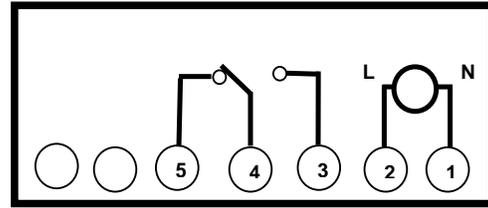

Fig 5
- Connect the wires to the main part of the receiver in accordance with the diagram below (Fig 5) and current Wiring Regulations.